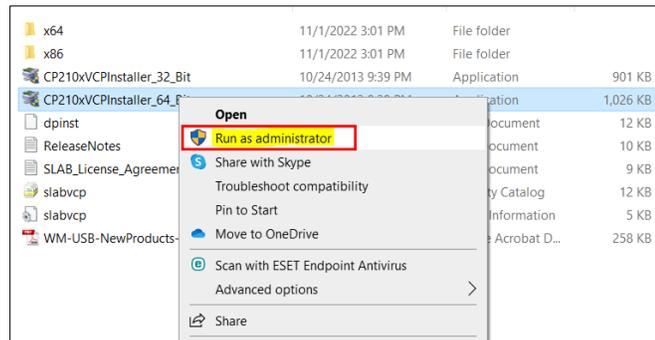

Figure 14: Running The Driver Installer As Administrator
10. After you have confirmed that your system is either 64-bit or 32-bit, right click the appropriate installer from the unzipped folder and choose “Run as Administrator” (see figure 14 for 64-bit example).